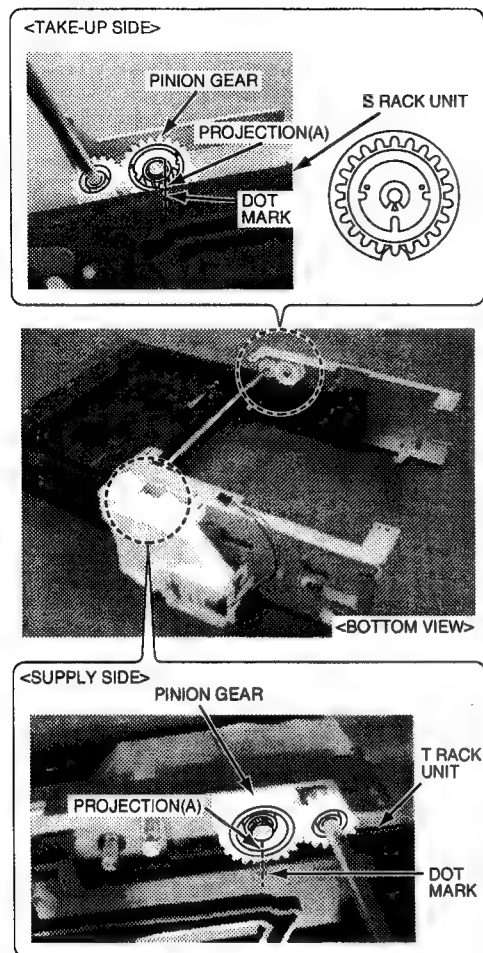

Fig. T-6
- Fig. T-6 Set the Pinion Gear so that the projection (A) is aligned to the Dot Mark on the Rack (S) and (T) and remove the Side Plate (S) and (T).
- Fig. T-6 Install the Side Plate (S) and (T) so that the projection (A) is aligned to the dot mark on the Rack (S) and (T).